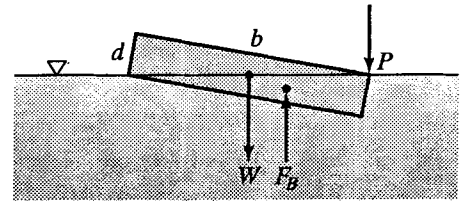

Figure P3.28
3.29 A rectangular block of uniform material and length  $L = 800$  mm, width  $b = 300$  mm, and depth  $d = 50$  mm, is floating in a liquid. It assumes the position shown in Fig. P3.28 when a uniform vertical load of  $20$  N/m is applied at  $P$ . (a) Find the weight of the block. (b) If the load is suddenly removed, what is the righting moment before the block starts to move? (Hint: Refer also to Fig. 3.19.)